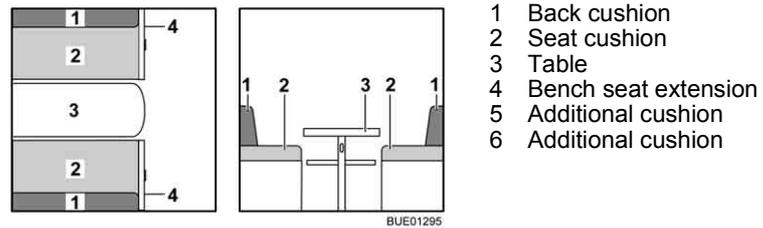

Fig. 112 Prior to conversion
- Extend the table (Fig. 112,3) and convert it into a bed foundation (see section 6.10).